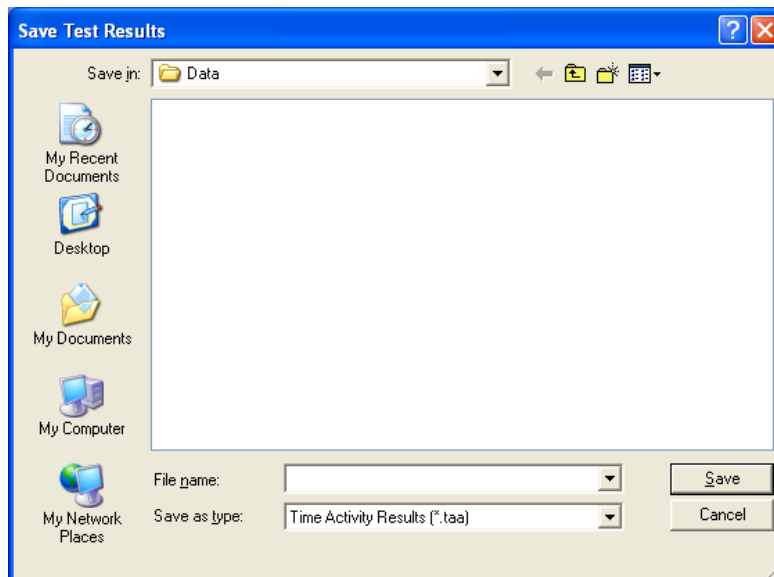

Figure 12-9
- a. If you click on **Save**, the screen appears as shown in Figure 12-9.